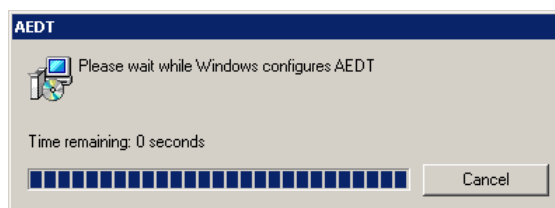

Figure 2-37 Complete Status
8. The status bar will display an estimated time to finish removing the programs. Once the installation is complete, the window will close (Figure 2-37).